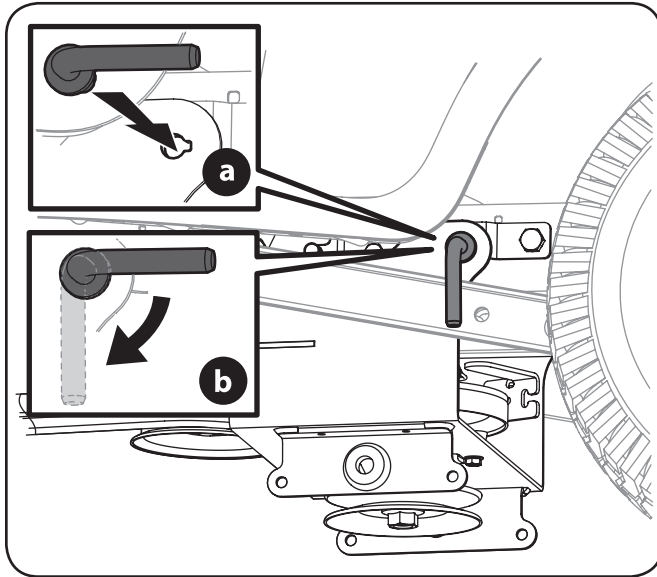

Figure 3-8
- Secure the carriage in place with the two lock rods. See Figure 3-8.